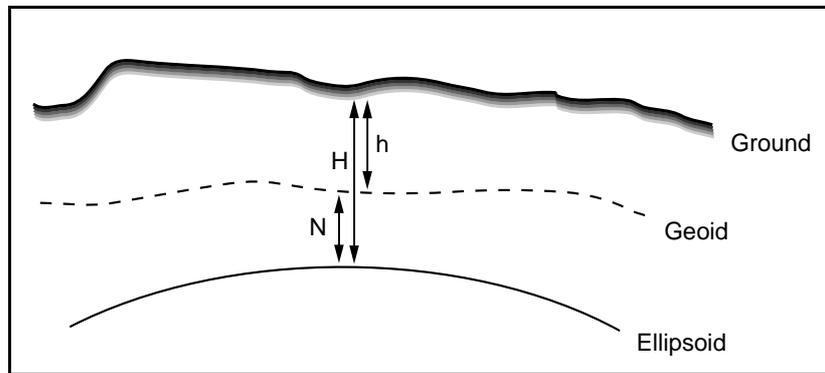

Figure 2.2 Geoid – ellipsoid separation
The geoid-ellipsoid separation value (N) is obtained from the geoid model and is subtracted from the ellipsoid height (H) for a particular point. The elevation (h) of the point above mean sea level (the geoid) is the result. This is illustrated in Figure 2.2.